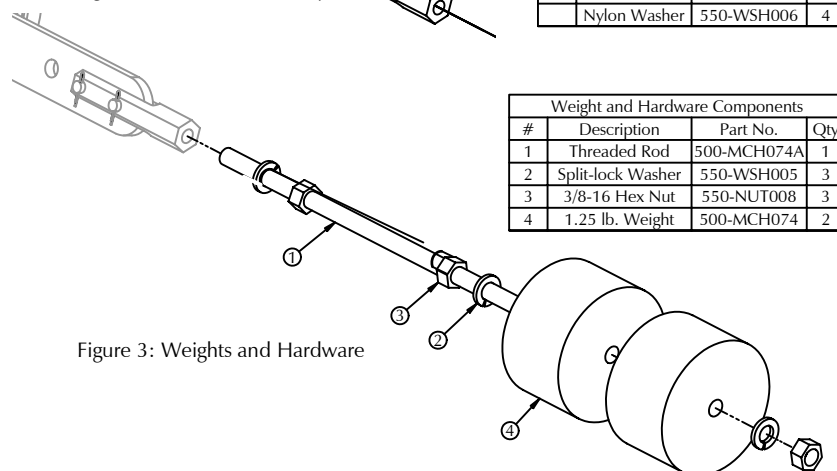

Figure 3: Weights and Hardware
2. Assemble the weights and hardware (figure 3).